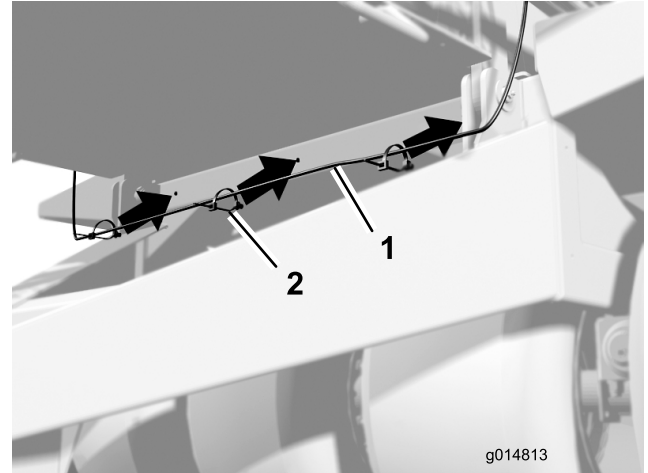

Figure 7
9. Insert (6) R-clamps onto each long length of the wire harness.
11. Use the (3) holes in the front of the hopper to secure the harness with cable clips (Figure 7).